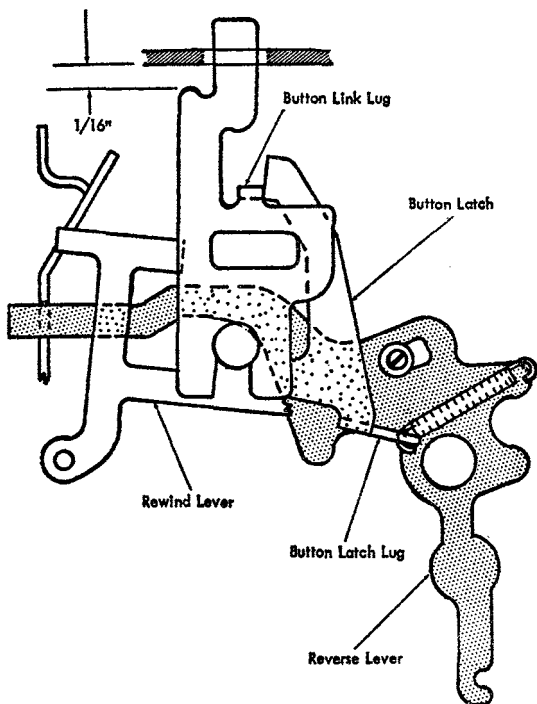

Figure 45. Button Latch Lug Adjustment
15. BUTTON-LATCH LUG. Latch the reverse lever and hold the drive shaft to prevent movement. Form the button-latch lug so the button latch cams off of the button link when the button link is raised to a point $\frac{1}{8}$ " from its upper limit of travel (Figure 45).